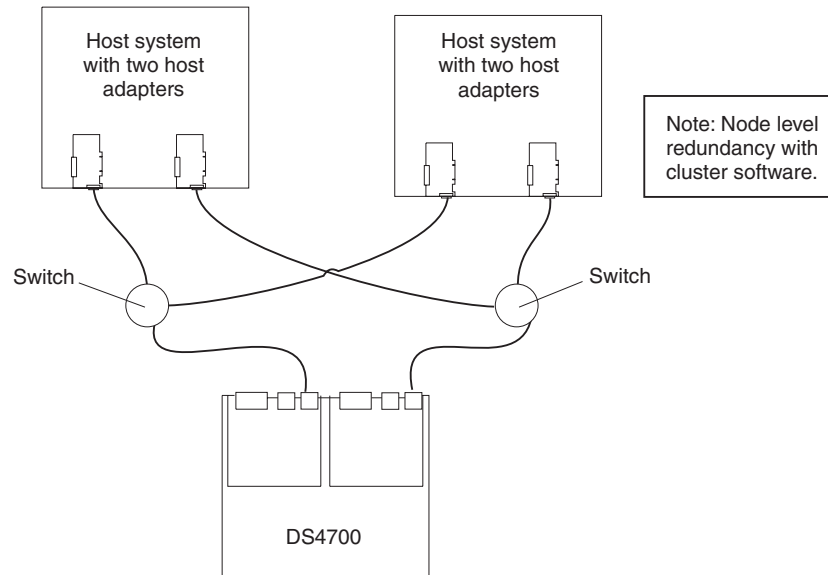

Figure 88. Example of a dual SAN fabric configuration
- Dual SAN fabric configuration, as shown in Figure 88 on page 107
In Figure 88, the fibre channel switches are connected together via the inter-switch link (ISL) to form a dual SAN fabric.